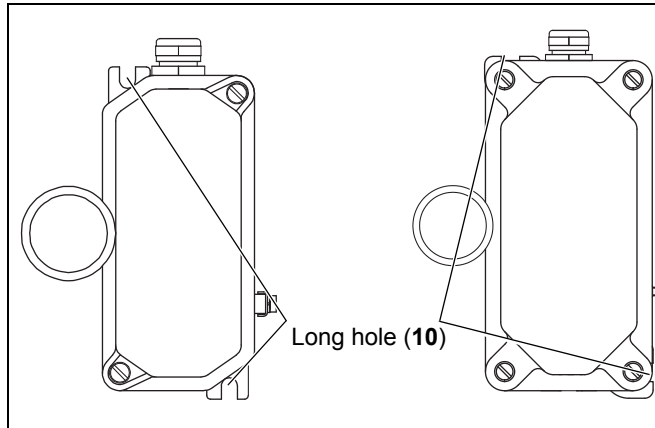
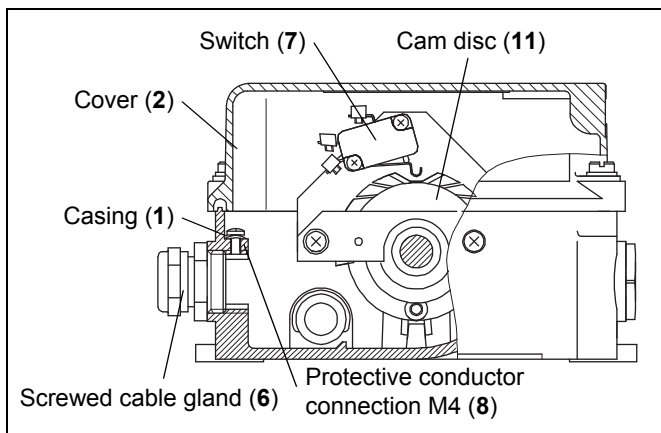

Fig. 5-3: Mounting the belt misalignment switch onto the conveyor
Fig. 5-13: Removing the belt misalignment switch from the conveyor
2. Secure the belt misalignment switches on the conveyor structure (see section 4.4: „Dimensions“, page 13). Secure the belt misalignment switches by screwing two screws through the long holes (10) (see fig. 5-3).
3. Release the screwed cable gland (6) (see fig. 5-13).
4. Disconnect all electrical connections and pull the cables out of the screwed cable gland (6).
5. Loosen both screws that fasten the belt misalignment switch through the long holes to the conveyor system (see figure 5-3, page 17) and remove the belt misalignment switch.